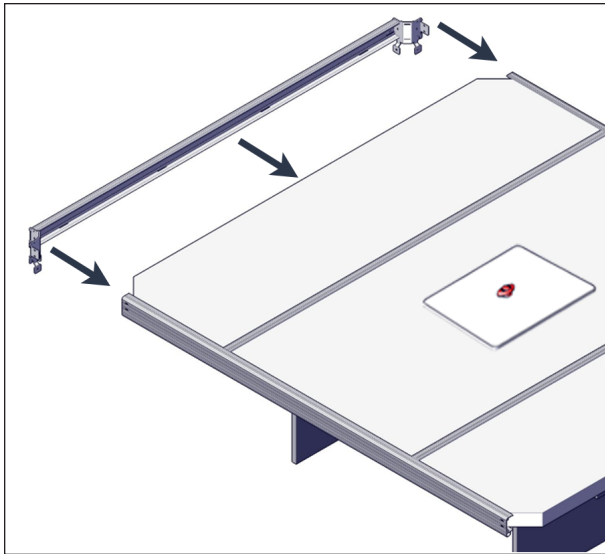

FIGURE 29: CORNER AND C-CHANNEL INSTALLATION
- On one end of the cover, slide one corner brackets and C-channel assembly, see Figure 29. It is recommended to slightly engage the top flange before the bottom when sliding the C-Channel onto the foam panel.